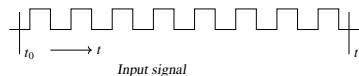

Fig. 5.19
19. Consider a 4-bit counter constructed out of four flip-flops. It is formed by connecting the J and K inputs to logic high and feeding the Q output to the clock input of the flip-flop in Fig. 5.19. The input signal to the counter is a series of square pulses and the change of state is triggered by the falling edge. At time  $t = t_0$  the outputs are in logic low state ( $Q_0 = Q_1 = Q_2 = Q_3 = 0$ ). Then at  $t = t_1$ , the logic state of the outputs is (GATE-PH2020,30)